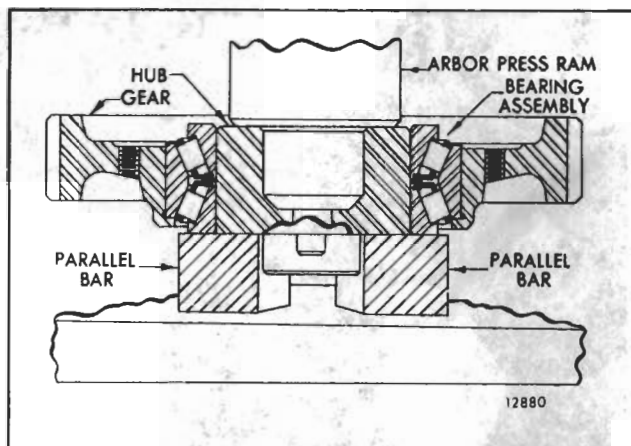

Fig. 4 - Pressing Hub into Idler Gear Bearing
7. Press the outer idler gear bearing cone over the hub while rotating the gear to seat the rollers properly between the cones. The bearing cones must be supported so as not to load the bearing rollers during this operation (Fig. 4).